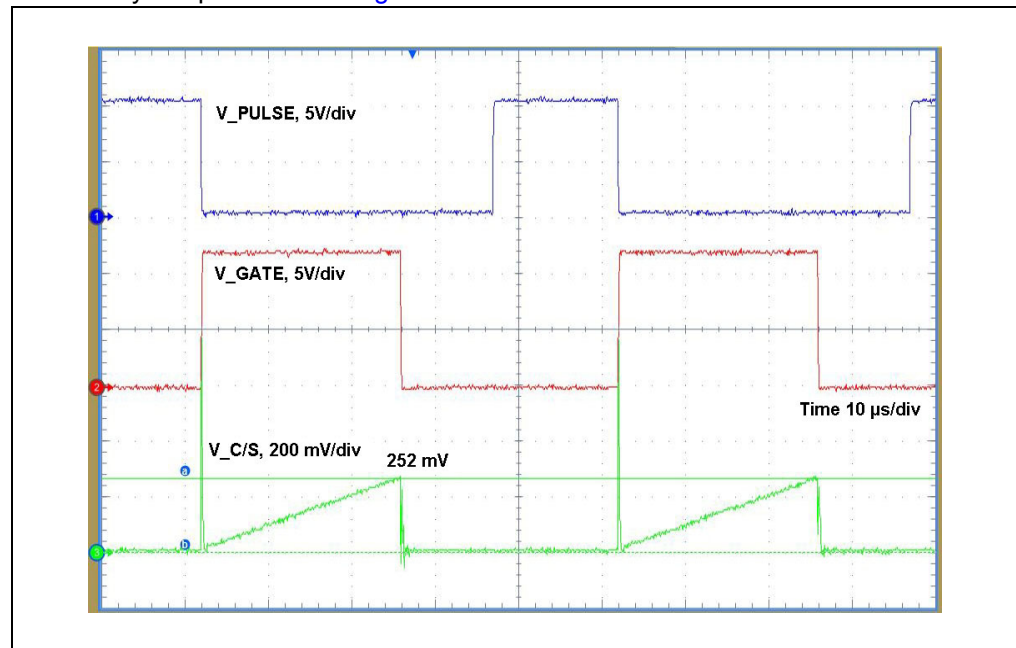

FIGURE 6-2: V_PULSE, V_GATE, and V_CS when the COMP1 Reference Is Reached.
8. Check on the oscilloscope screen the signals V_PULSE, V_GATE, and V_C/S as they are presented in Figure 6-2.